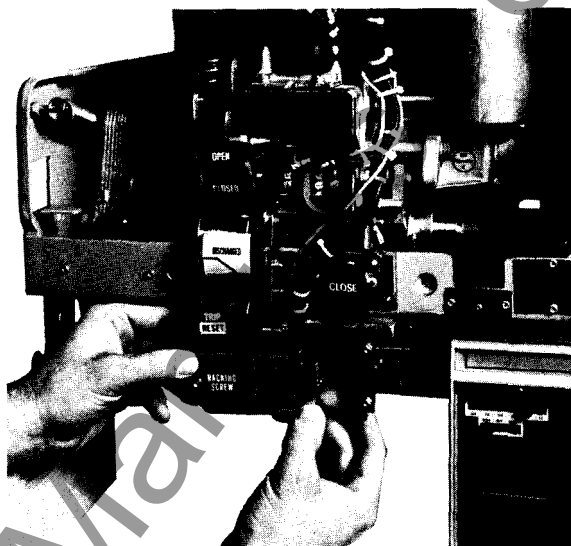

FIG. 8
13. Reassemble the escutcheon to the breaker. Should the racking screw cover dislocate, line up the labels, push forward, and release gently. See figure 8. Screw the escutcheon to the breaker.